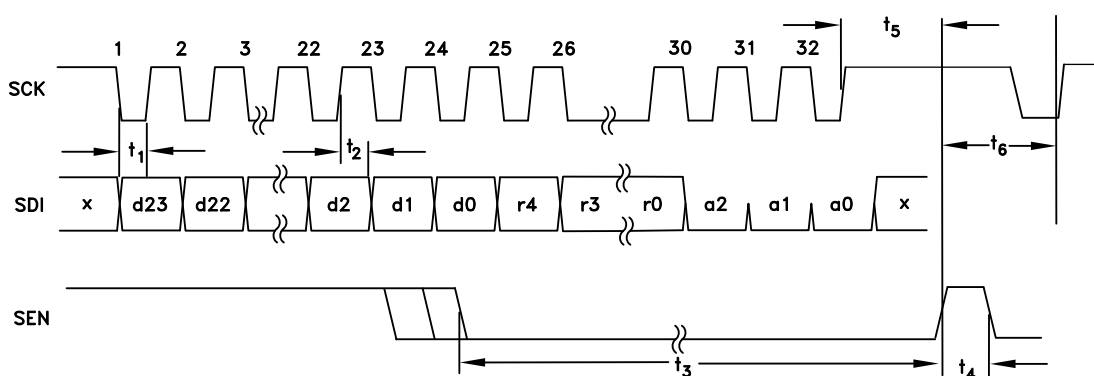

Figure 46. Serial Port Timing Diagram - WRITE
A typical READ cycle is shown in Fig 46.
- The Master (host), on the first 24 falling edges of SCLK places 24-bit data, d23:d0, MSB first, on SDI as shown in Fig 46. d23:d5 should be set to zero. d4:d0 = address of the register to be READ on the next cycle.